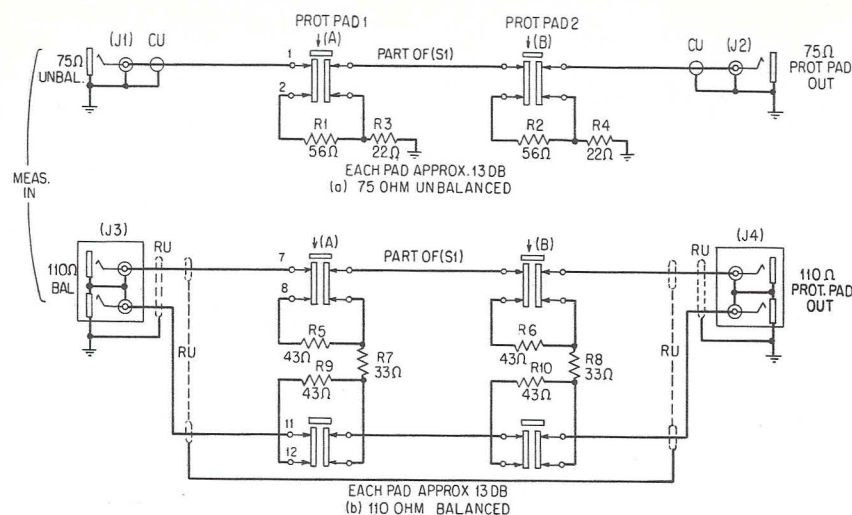

Fig. 3 - 75-Ohm and 110-Ohm Protection Pad Circuits
**2.03** This circuit is shown in Fig. 3(a). It is provided with a MEAS IN 75w UNBAL jack and a 75w PROT PAD OUT jack. Between these jacks are connected, by means of shielded coaxial cable, two resistance pads each having approximately 13 db loss. Each pad is eliminated from the circuit by depressing a nonlocking push-button type key. Thus when a current is patched through the protection pad circuit to the thermocouple set, both protection keys must be depressed in order to obtain a normal reading
**(E) 110-Ohm Protection Pad Circuit**
**2.05** This circuit, shown in Fig. 3(b) is similar in function to that described in Part 2(C). It is equipped with a balanced input and output, as well as with balanced pads. The jacks and pads are connected by means of a shielded, balanced cable. Connection to the 110-ohm thermocouple from the protection circuit is made by means of two 372A patching plugs.
**3. PERFORMANCE****(A) Frequency Range**